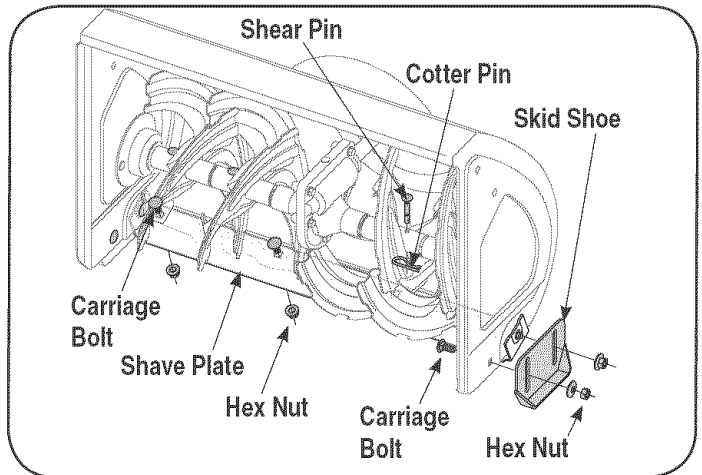

Figure 10
1. To replace, remove two carriage bolts and hex nuts securing each skid shoe to the auger housing. See Fig. 10.
3. **To remove shave plate:** Remove both skid shoes and hardware including carriage bolts, and hex nuts which attach shave plate to the snow thrower housing. For location of shave plate, see Figure 10.
The augers are secured to the spiral shaft with four shear pins and cotter pins. If you hit a foreign object or ice jam, the snow thrower is designed so that the pins may shear. Refer to Figure 10.